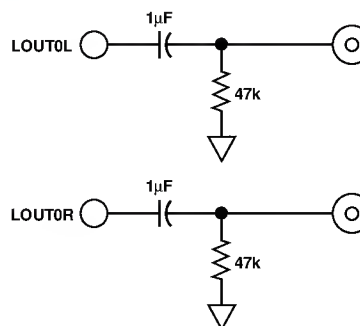

Figure 13. AD1849K Line Output Connections
Figure 13 shows ac-coupled line outputs. The resistors are used to center the output signals around analog ground. If dc-coupling is desired, CMOUT could be used with op amps as mentioned below.
- The AD1849K was designed to require no external low-pass filters on analog outputs. As shown in Figure 13, the AD1849K only requires ac coupling capacitors and resistors for line-level dc bias. In contrast, the CS4215 has a single-pole passive filter for its recommended line-level output circuit. Though overkill for the AD1849K, this output circuit will work with the AD1849K as well.